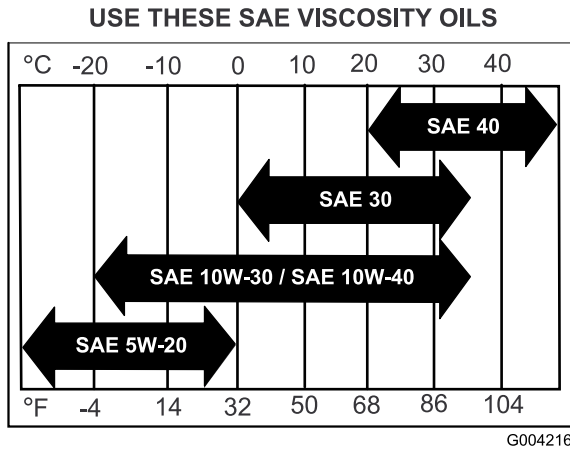

Figure 29
4. Fill the crankcase with the specified type of new oil; refer to Figure 29.